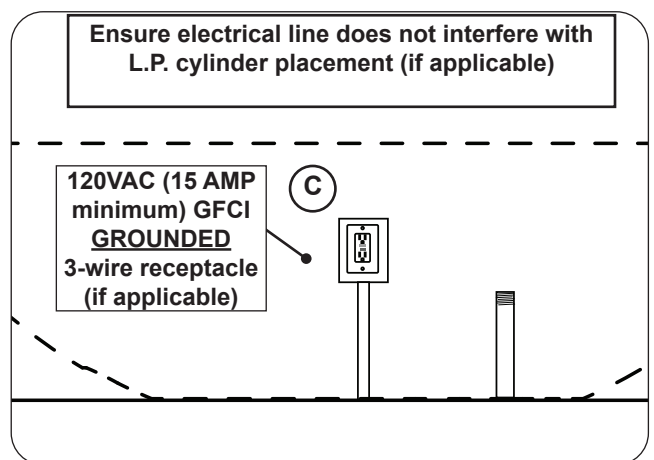

Fig. 24-2 Route electrical (if applicable)
1. Wire the receptacle into the area that the unit will rest over (see Fig 24-2, C).